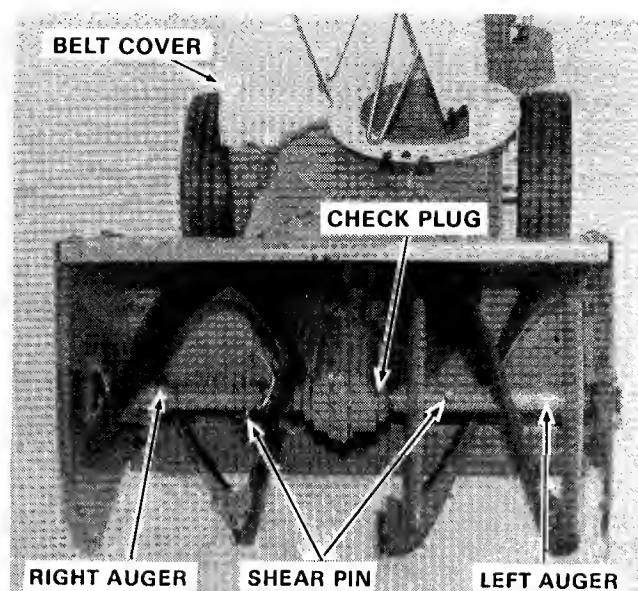

Figure 3. Shear Pins, Check Plug and Belt Cover Location
2. The auger gear case has been factory lubricated for life. If for some reason lubricant should leak out, have auger gear case checked by your dealer. To check level, remove the check plug (figure 3). The fluid should be level with the hole. If not, add worm gear oil (available from your dealer).
The auger assembly is made up of a right and left auger. Each is secured with a shear pin (figure 3). These pins are designed to break (to prevent damage to snowblower) if an object becomes lodged in the auger. Two shear pins have been furnished with your snowblower. If additional pins are required, order genuine replacement pins. Use of a harder pin will destroy the protection provided by this special pin. To replace a broken shear pin proceed as follows:
1. Disconnect spark plug wire, tie back away from plug and remove belt cover (figure 3).